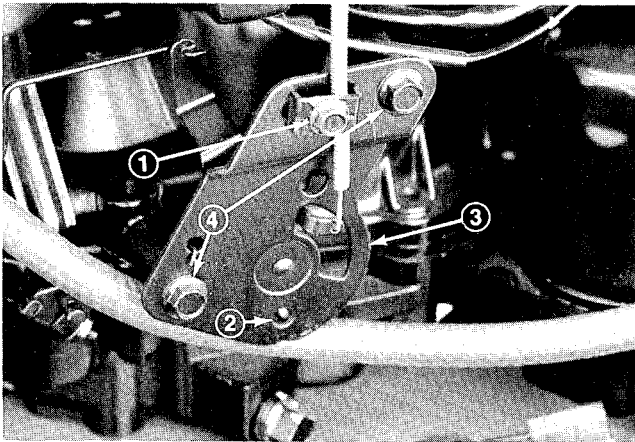

Figure 20
ADJUSTING THROTTLE—CHOKE CONTROL (Fig. 20)
2. Loosen the throttle cable clamp screw (Fig. 20) and move the control cable casing and wire until the hole in speed control is aligned with hole in control plate. Tighten cable clamp.
6. Loosen (2) control plate mounting screws.